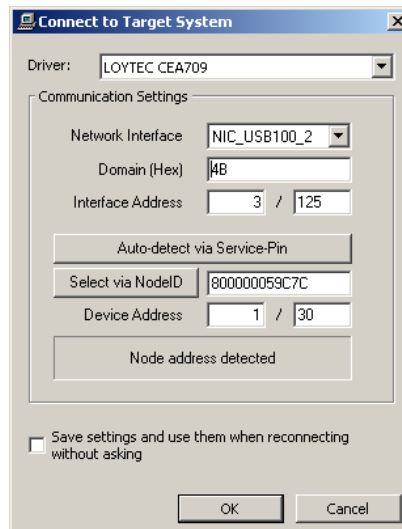

Figure 70: Connect via CEA-709
- **CEA-709:** Select the network interface to use and fill out all other fields, see Figure 70. Alternatively, select the network interface and press Auto-detect via Service-Pin. Then press the service pin on the LINX-110 device. Note that this connection method requires an installed LOYTEC network interface.